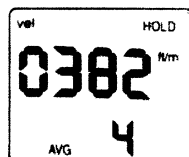

fig. 5
3. Once all measurements have been recorded press NEXT DIGIT/MULTIPOINT AVERAGE key. The unit will display the average air velocity reading and number of points measured (fig. 5).